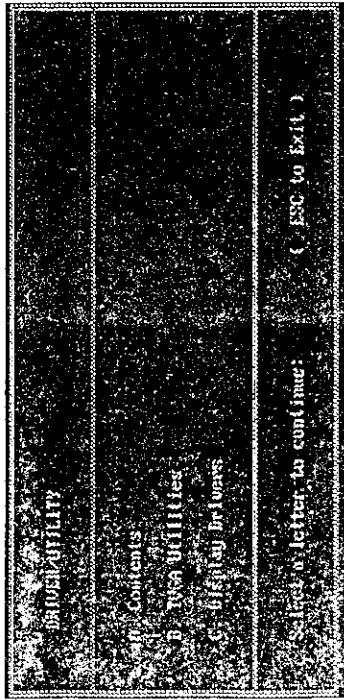

Figure 3-26.
4. Files and subdirectories will be expanded into the newly created directory TVGAUTIL. A new menu will then be displayed on the screen, showing a list of on-line instructions (see Figure 3-26).